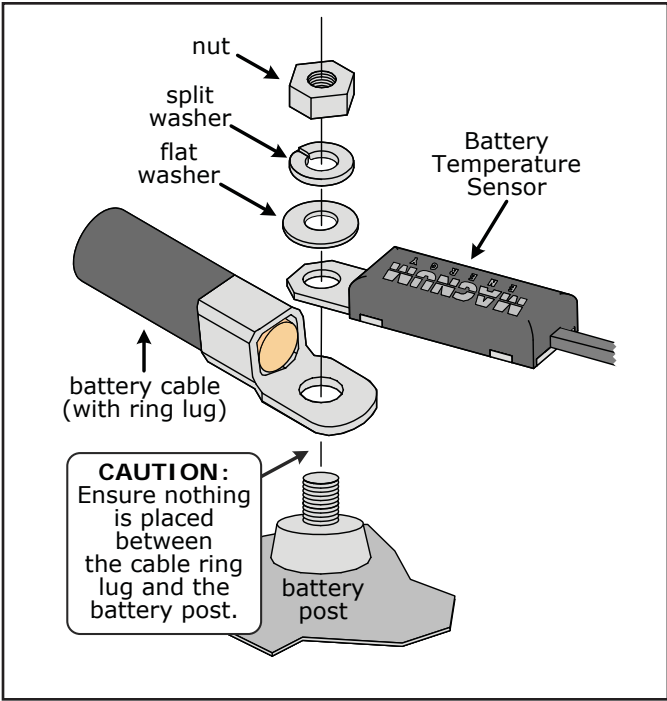

Figure 2-5, Battery Hardware Installation
Refer to Figures 2-5 and 2-6 to connect the DC cables and to stack the hardware correctly. Tighten the terminal connections from 13.6 to 16.3 N-m (10 to 12 ft lbf).
- 1. Attach the ring terminal end of the Battery Temperature Sensor to the negative battery terminal; see Figure 2-5 for proper connection to the battery terminal.
Ensure the DC wire connections (on the batteries, inverter, and DC circuit breaker/fuse lugs) are flush on the surface of the DC terminals, and the hardware (lock washer and nut) used to hold these connections are stacked correctly (Figures 2-5 and 2-6).